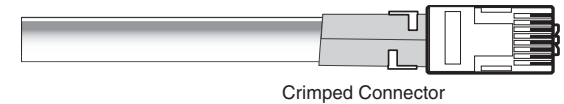

Figure 2-23 — Crimped RJ-45 connector
5. Crimp the RJ-45 cable in the normal manner, folding the tangs at the end of the connector over the shielded tape (figure 2-23).